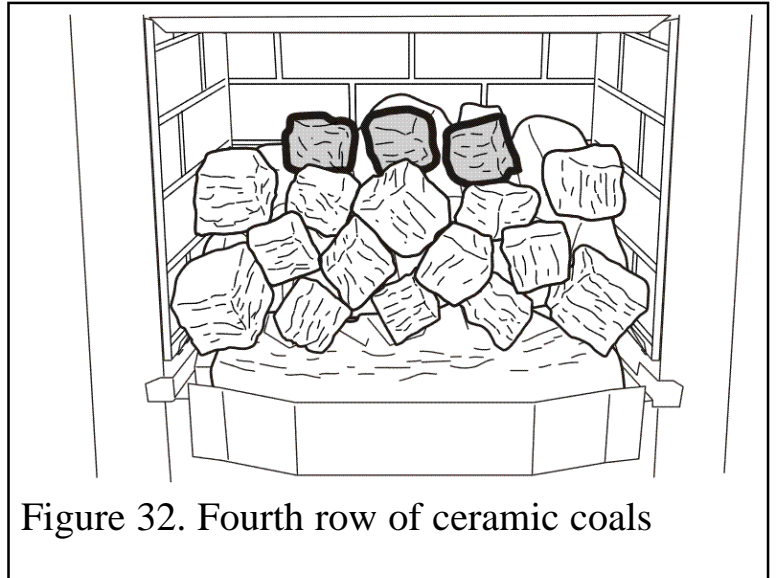

Figure 32. Fourth row of ceramic coals
8. Locate a small ceramic coal behind the central medium ceramic coal. This should be held in place between the medium ceramic coal and the ceramic base coal (See figure 32). Locate the remaining small ceramic coals each side of that located previously. These should sit behind and be held in place by the small ceramic coals in front.